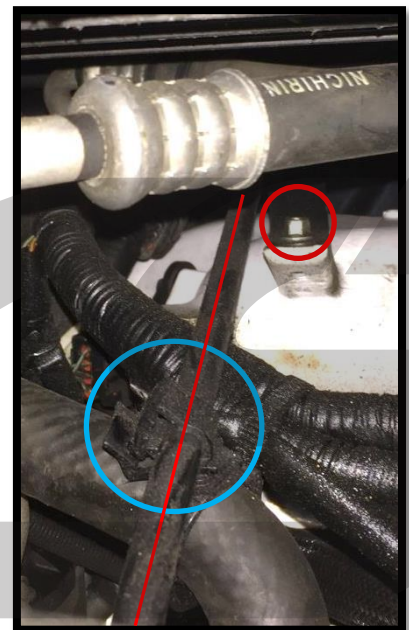

Figure 3b
- b) **Disconnect and remove the oil dipstick tube (red line in Figure 3b)**. There is one (1) 8mm bolt that attaches it to the intake manifold and a clip that attaches it to a coolant line. **Circled in red and blue** respectively in **Figure 3b**.